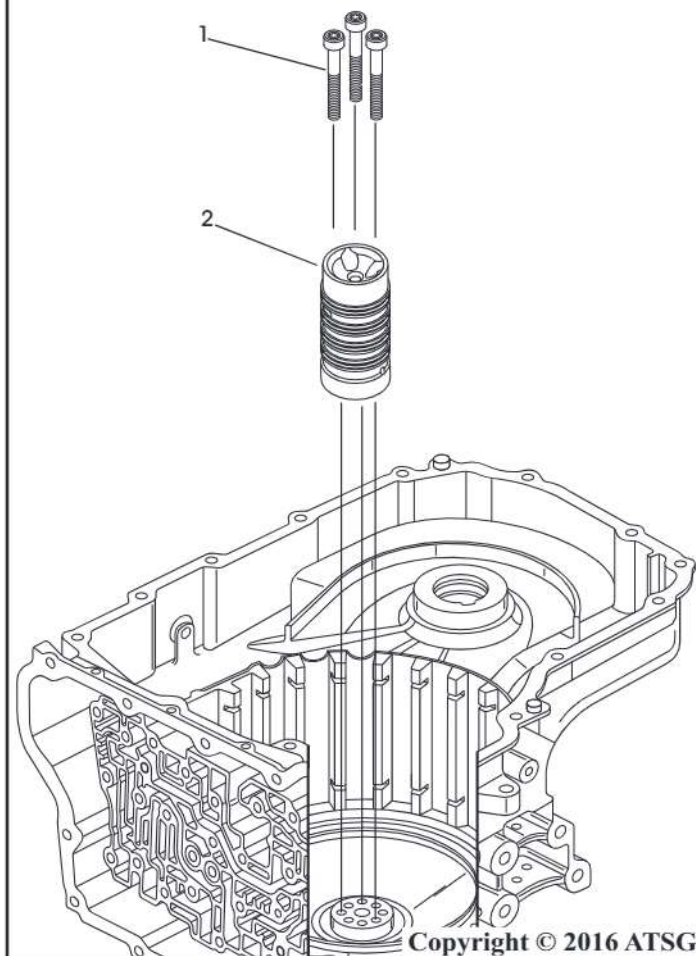

Figure 145
17. Place 4-5-6/3-5-R housing support into the bottom of the case as shown in Figure 145.
18. Install the three 4-5-6/3-5-R housing support bolts as shown in Figure 145.